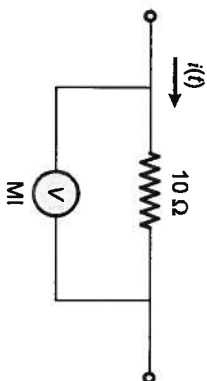
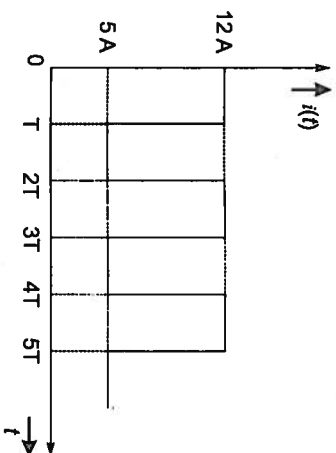

Figure-1
Figure-2
- T2. The current passing through a  $10 \text{ ohm}$  resistor in figure-1, has the waveform shown in figure-2. The reading of the MI voltmeter connected across the resistor is